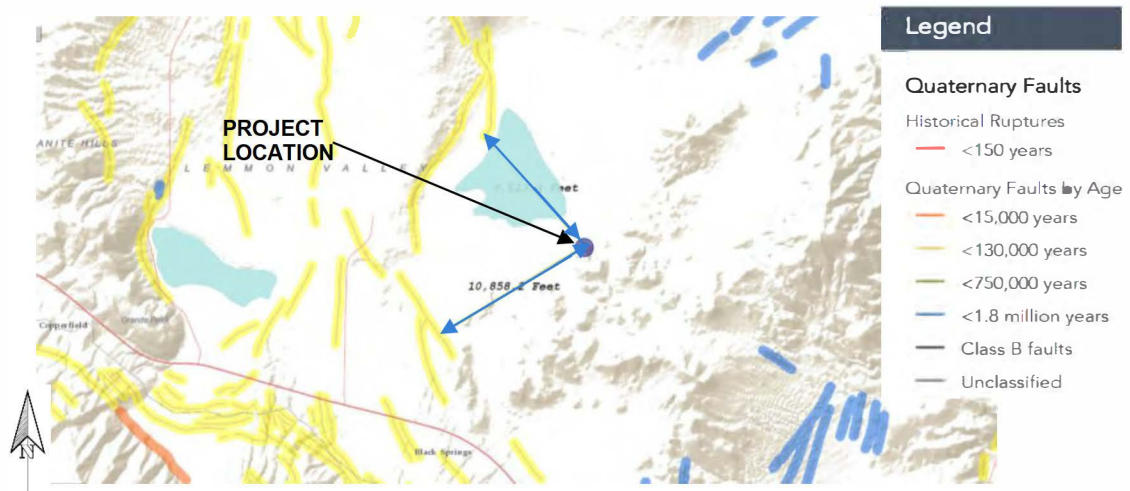

Figure 7: Excerpt from the UNR Quaternary Interactive Fault Map
- 3) University of Nevada Reno Interactive Quaternary Fault Map included as Figure 7 (Excerpt from the UNR Quaternary Interactive Fault Map). (<http://gisweb.unr.edu/QuaternaryFaults/>)